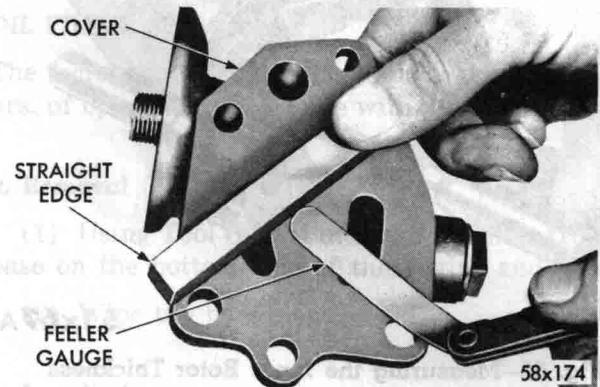

Fig. 63—Checking the Oil Pump Cover with a Straightedge
- (1) Clean all the parts thoroughly. The mating face of the filter base (oil pump cover) should be smooth. Replace the filter base if it is scratched or grooved.
- (2) Lay a straightedge across the oil pump cover (Fig. 63). If a .0015 inch feeler gauge can be inserted between the cover and the straightedge, the cover should be replaced.